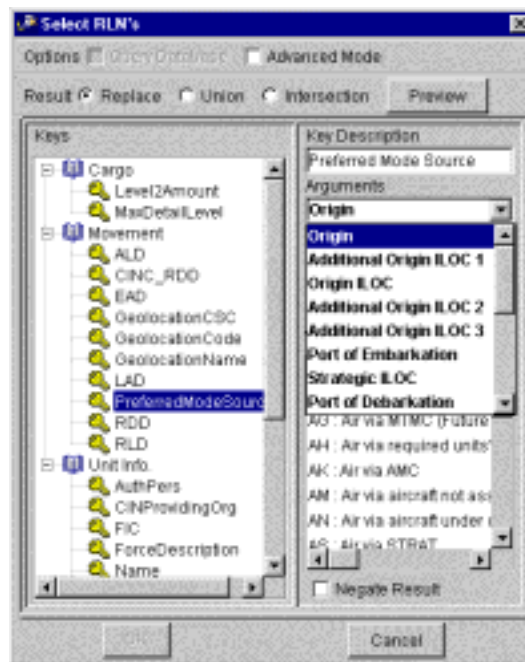

Figure 5.102 Select RLN's Window
5. As needed, click the Arguments ▼. A drop-down list of “arguments” is displayed (Figure 5.102). Otherwise, skip to Step 7.